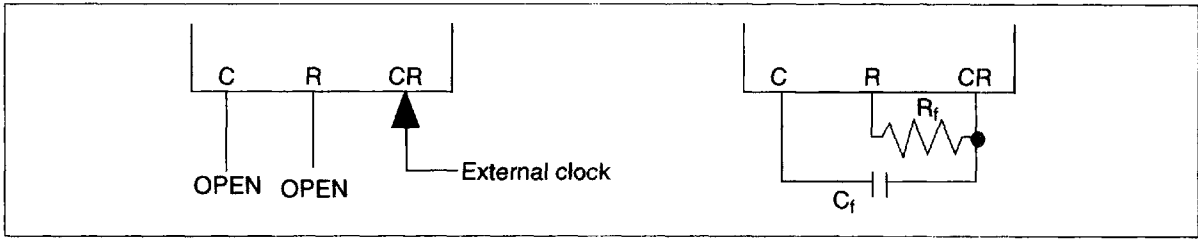

Figure 1 Oscillator Connection in Master Mode
1. **CR Oscillator:** The CR oscillator generates the HD66523 operation clock. During master mode, since the operation clock is needed, connect oscillation resistor R_f with oscillation capacitor C_f . When the external clock is used. Input external clock to pin CR and open pins C and R (Figure 1).